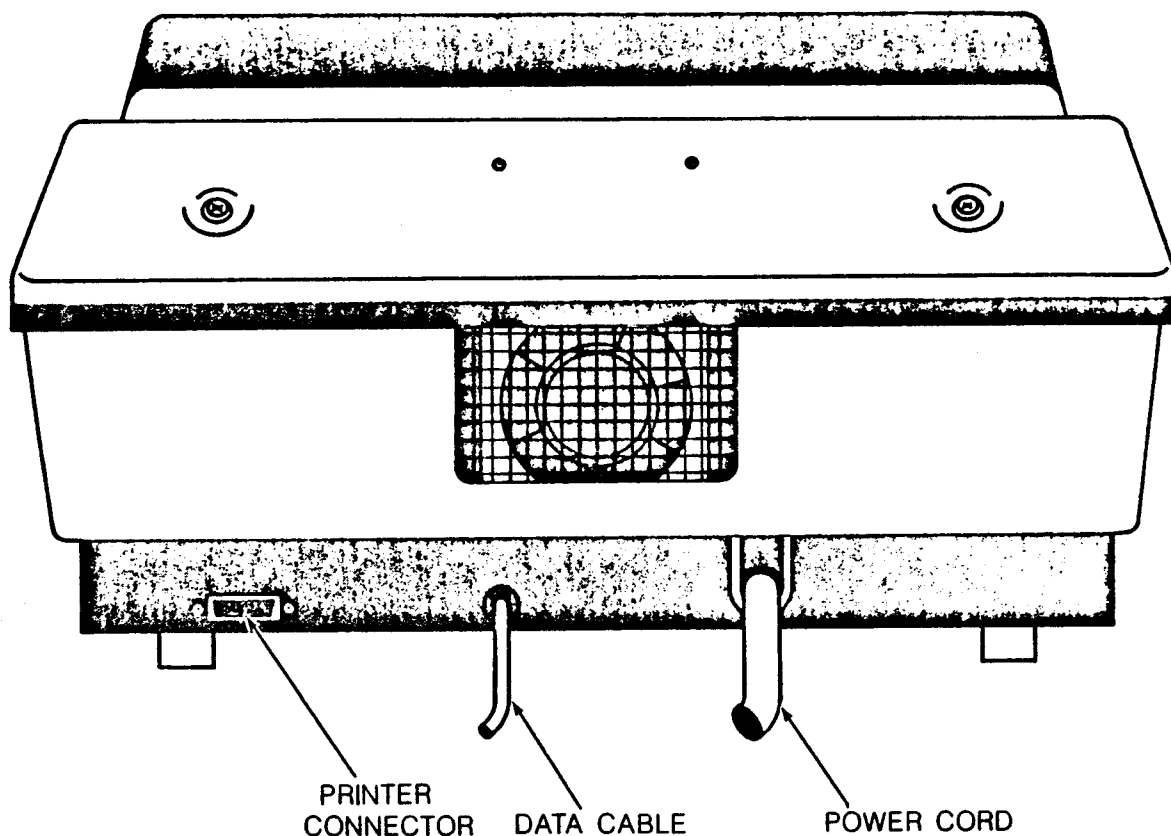

FIGURE 5: REAR OF T-12C CONSOLE
- After all site wiring is in place and tested, connect the T-12C Console to the Distribution Box using the Two-Wire Data cable at the rear of the console. (See Figure 5, below.)